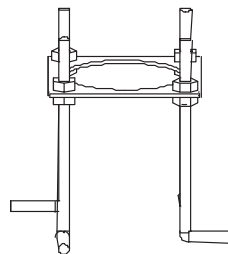

Fig. 3
1. Prepare site. Get the anchor bolt carrier assembled as shown in Fig 3 and use it to determine placement of anchor bolts in concrete.